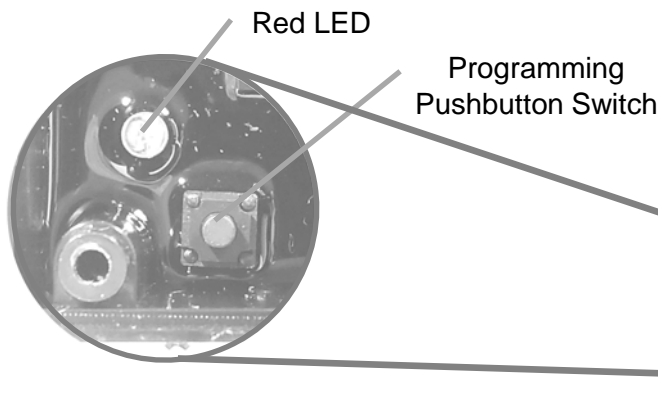

Fig. 11
Remove the four Control Module Cover Screws that secure the cover of the Mirror Control Module. Remove cover and the internals of the Mirror Control Module will be exposed, as shown in Fig. 11.
1. Locate the Blue Programming Pushbutton Switch and the Red LED on the Mirror Control Module. See Fig. 11. Depress and hold the Blue Programming Pushbutton Switch (approximately 5 seconds) until the Red LED illuminates, then release the Pushbutton. This indicates that the Control Module is in programming mode.